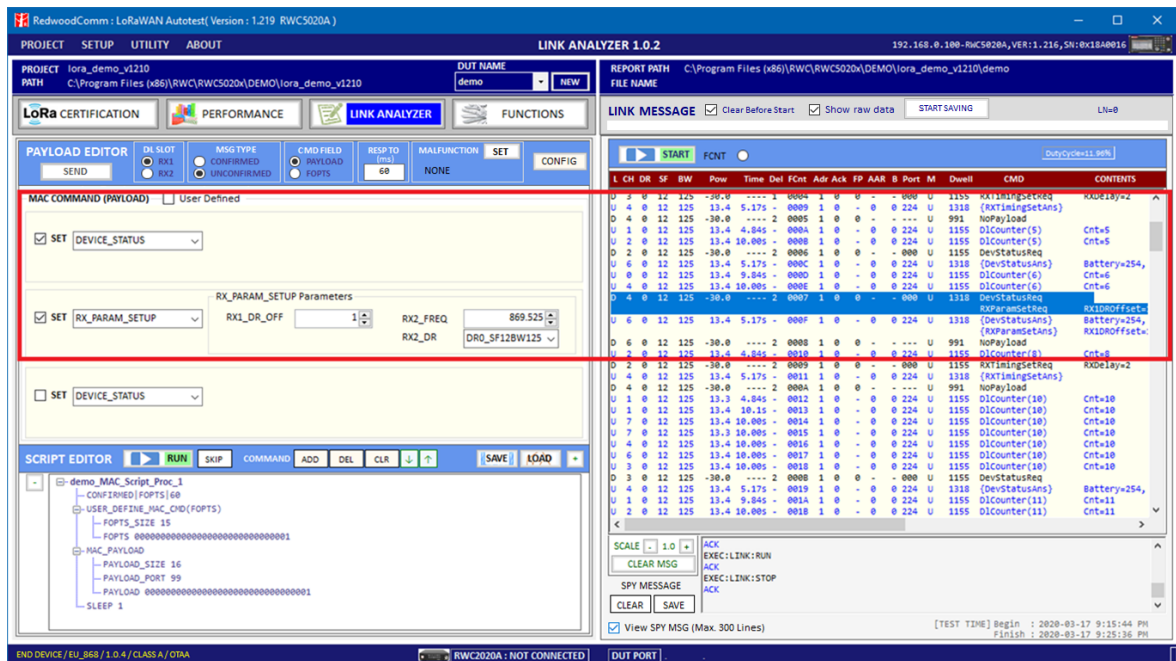

Fig 3.36 Sending multiple commands in a single packet
**Malfunction Editing** - Click the[SET] button in the MALFUNCTION area and select the types of error which you want to add like fig. 3.36. To generate an intentional MIC error, set MIC\_ERROR to ON. To modify the MAC header part, set MHDR\_ERROR to ON and configure the XOR\_MHDR value. XOR\_MHDR value is exclusive OR with MAC Header. To modify the Frame header part, set FHDR\_ERROR to ON and configure the XOR\_FHDR value. XOR\_FHDR value is exclusive OR with Frame Header.